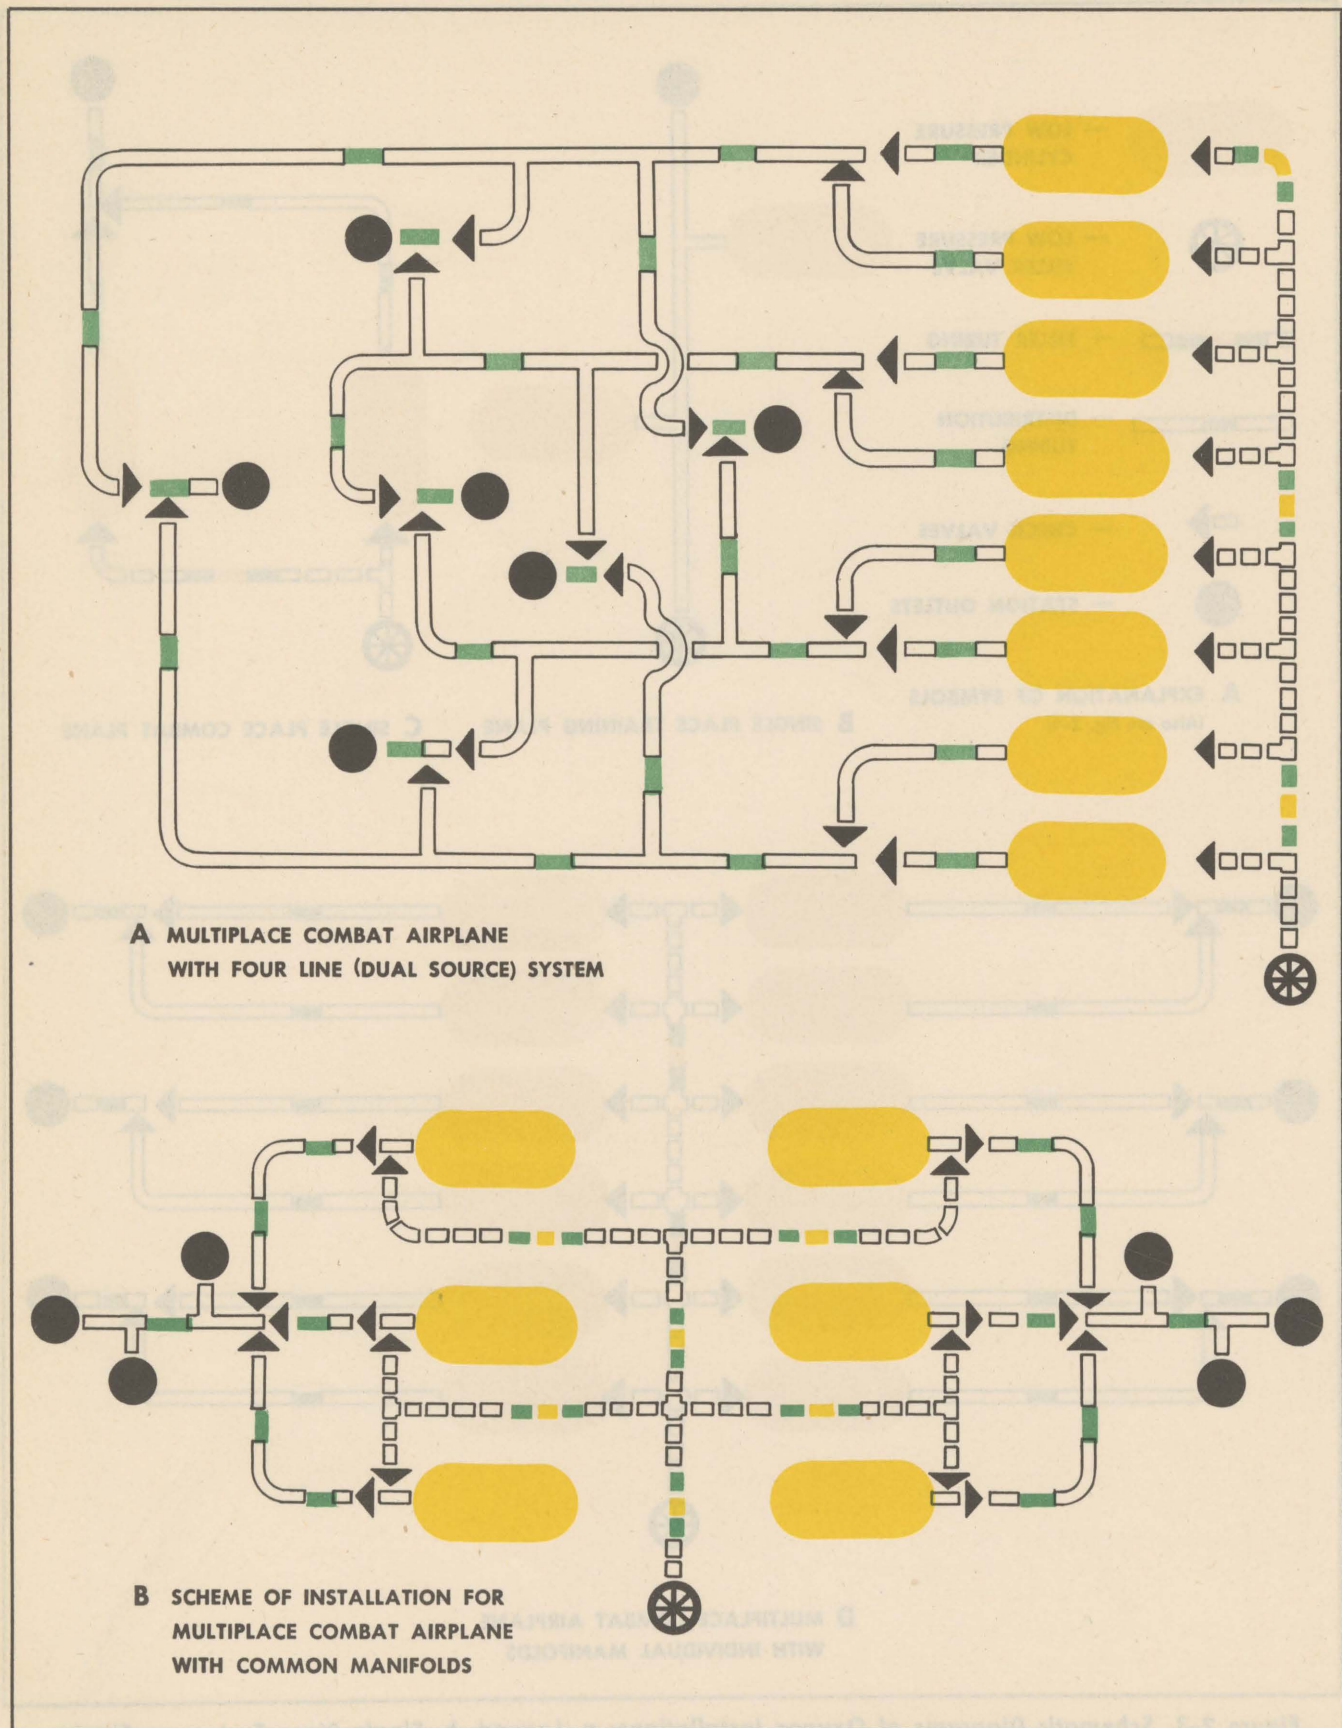

Figure 2-4. Schematic Diagrams of Oxygen Installations: a. Four Line, b. Common Manifolds
2-20. MULTIPLACE COMBAT AIRPLANE, FOUR LINE (DUAL SOURCE) SYSTEM. (See figure 2-4, detail "A".) In this installation, while several outlets (1) are connected to a single manifold (2), the various manifolds are also interconnected in such a way that each outlet is actually supplied from two manifolds, either one of which may be punctured without draining the other. The filling system (3) is the same as that described in paragraph 2-19. The advantage of this plan is that many outlets may be supplied by relatively few cylinders with maximum safety.
2-21. MULTIPLACE COMBAT AIRPLANE, COMMON MANIFOLDS. (See figure 2-4, detail "B".) This is a nonstandard installation found on certain heavy bombers. Several outlets (1) are supplied from a common manifold (2) to which a number of cylinders (3) are connected. Puncture of any distribution manifold will deplete the oxygen supply for several men. The filling system (4) is the same as described previously.